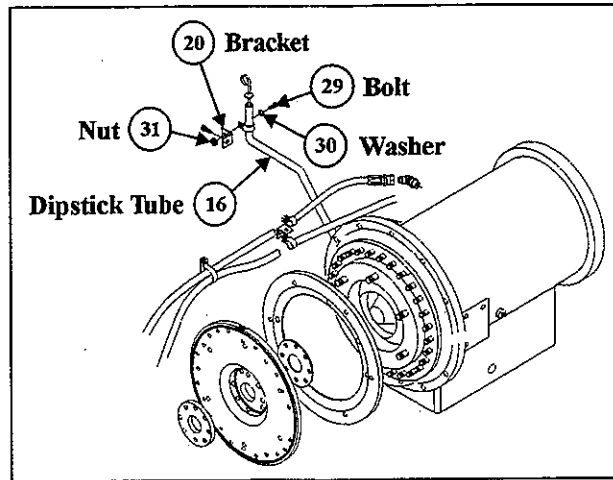

Figure 9—Dipstick Removal.
11. Remove nut (31), bolt (29) and washer (30) from bracket (20). (See Figure 9—Dipstick Removal.)
12. Remove dipstick tube (16).